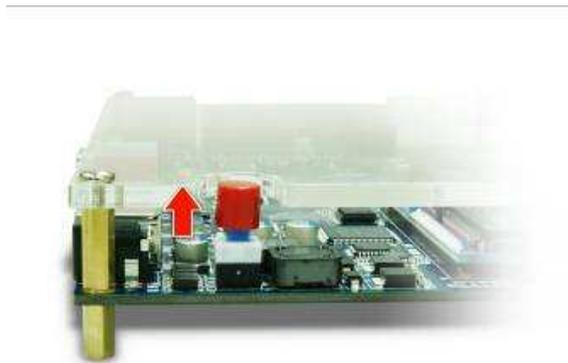
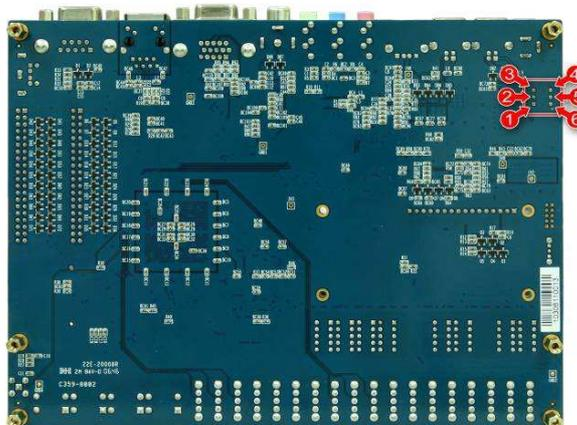

Figure 1
Figure 2
1. Release the red switch to POWER OFF state (out) as shown in Figure 1. And turn DE2 over to the back side as shown in Figure 2.